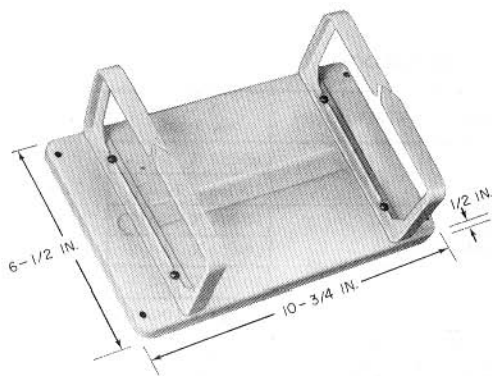

Fig. 4—188B1 Backboard
2.07 The 188B1-type backboard (Fig. 4) is used to provide a horizontal wiring channel for cross-connect wire in large installations. The backboard consists of two plastic distributing rings mounted on a white sheet metal panel 1/2-inch thick by 10-3/4 inches long by 6-1/2 inches wide. The 188B1 backboard replaces the 188A1 which is rated MD.